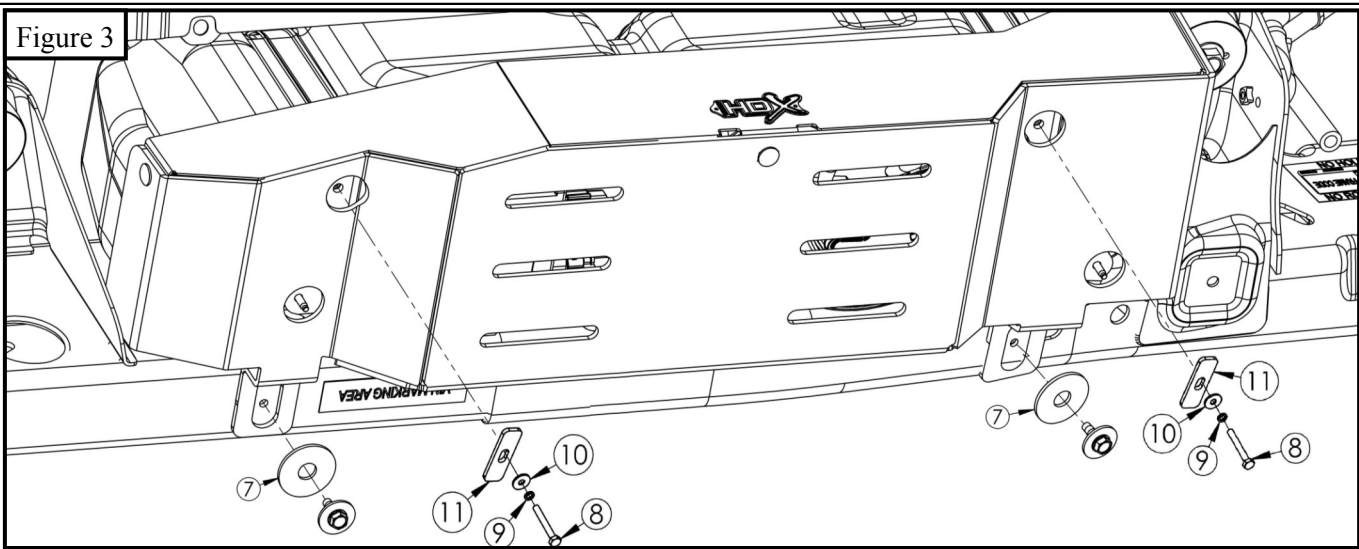

Figure 3
5. Loosely secure the skid plate onto the same location where the factory skid plate was removed using the factory M8 hardware along with the provided (2) flat washer (Item 7), M6 hardware (Items 8-10), and rect. spacer (Item 11) Refer to **Figure 3**.